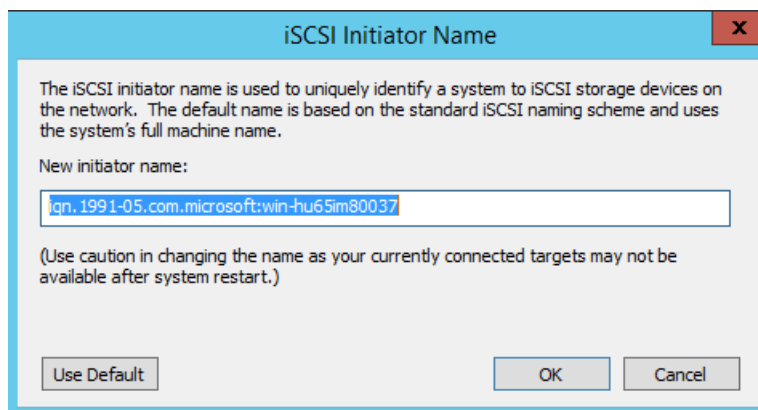

Figure 10-2. iSCSI Initiator Node Name Change
- c. In the iSCSI Initiator Name dialog box, type the new initiator IQN name, and then click **OK**. (Figure 10-2)